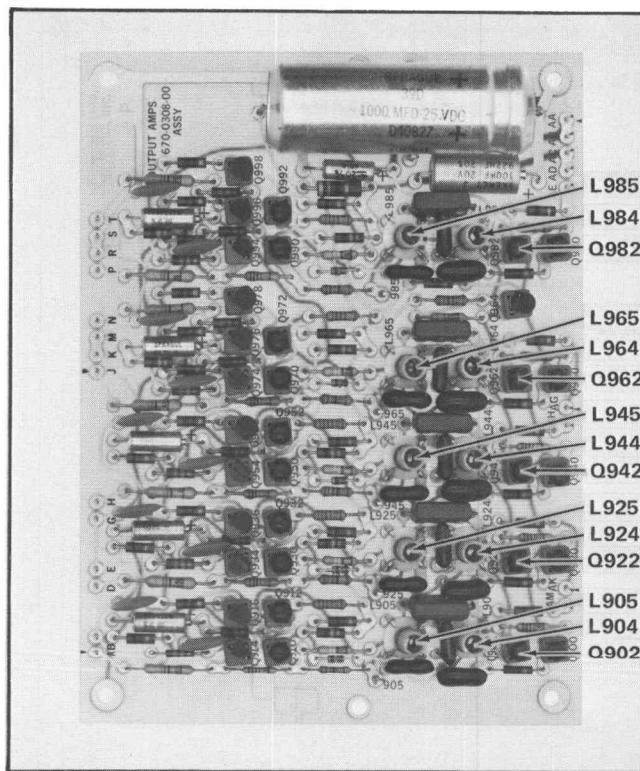
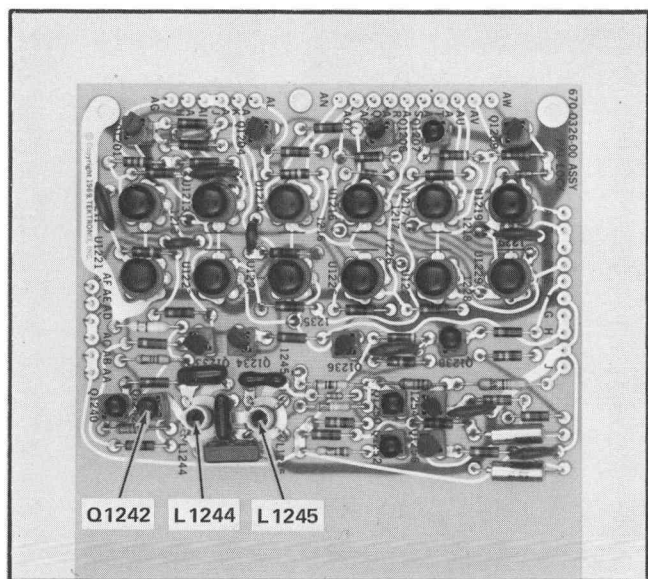

Fig. 5-39. Output Amps board adjustment locations.
Fig. 5-40. Pal Lock board adjustment locations.
f. Using Table 5-7, Fig. 5-39, and Fig. 5-40 as guides, CHECK and/or ADJUST the Type 142 output amplifiers.
10 See Fig. 5-40 for location of L1244 and L1245.